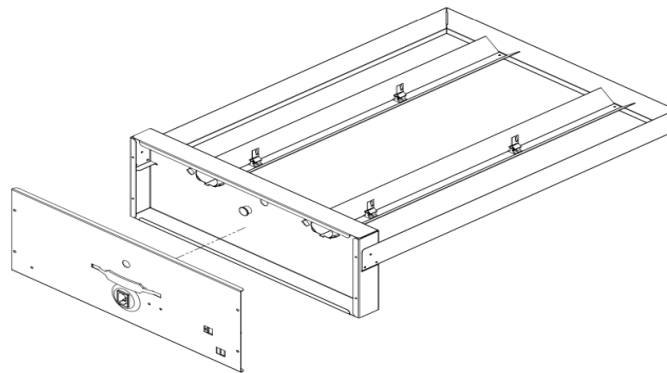

Figure 2. Remove Cover Panel from Control Box Assembly
- Step 3.** Remove the four (4) screws securing the cover panel to the control box assembly and remove the cover panel. See Figure 2.